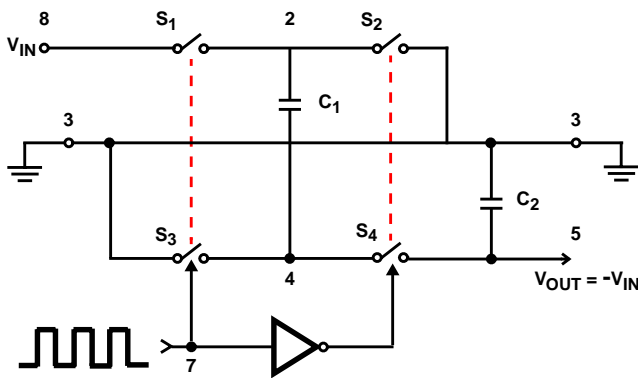
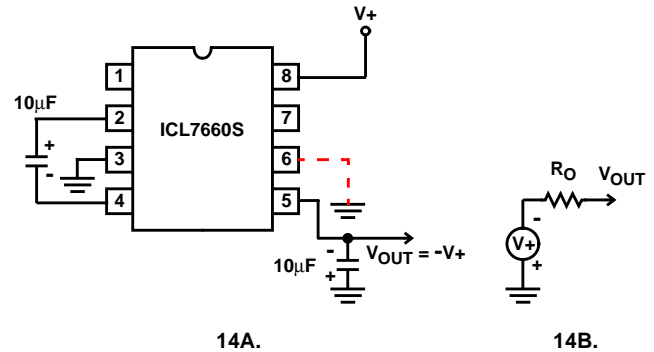
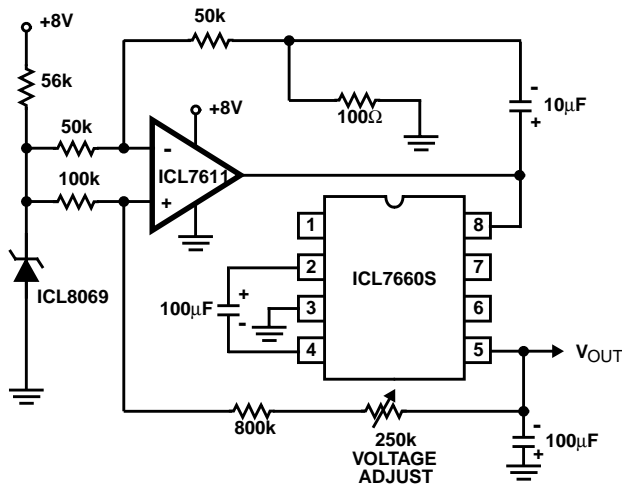
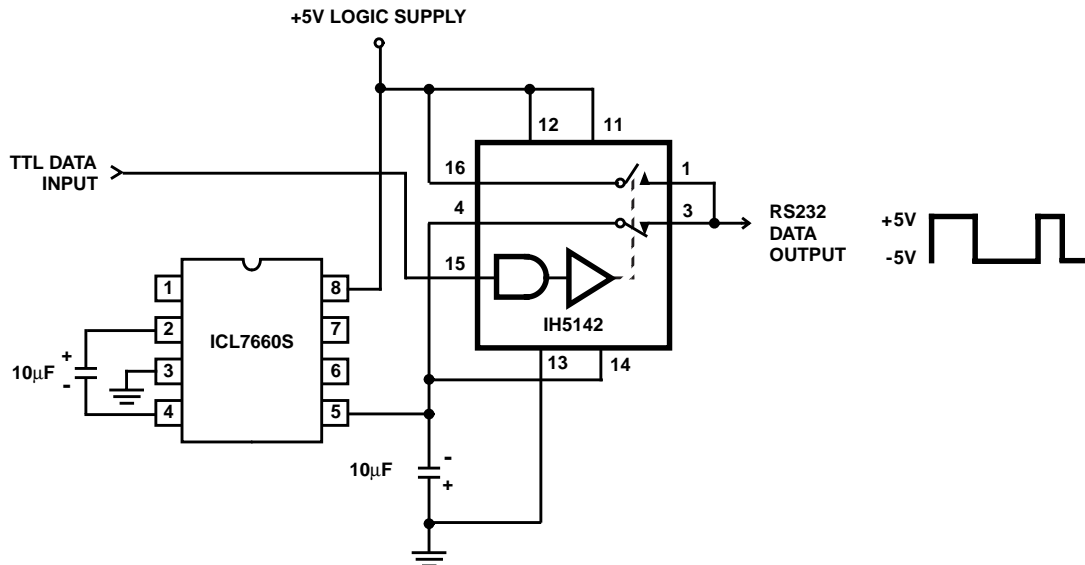

FIGURE 13. IDEALIZED NEGATIVE VOLTAGE CONVERTER
FIGURE 14. SIMPLE NEGATIVE CONVERTER AND ITS OUTPUT EQUIVALENT
FIGURE 20. REGULATING THE OUTPUT VOLTAGE
FIGURE 21. RS232 LEVELS FROM A SINGLE 5V SUPPLY
The ICL7660S contains all the necessary circuitry to complete a negative voltage converter, with the exception of 2 external capacitors which may be inexpensive 10 $\mu$ F polarized electrolytic types. The mode of operation of the device may be best understood by considering Figure 13, which shows an idealized negative voltage converter.
In the ICL7660S, the 4 switches of Figure 13 are MOS power switches;  $S_1$  is a P-Channel devices and  $S_2$ ,  $S_3$  and  $S_4$  are N-Channel devices. The main difficulty with this approach is that in integrating the switches, the substrates of  $S_3$  and  $S_4$
where  $V_1$  and  $V_2$  are the voltages on  $C_1$  during the pump and transfer cycles. If the impedances of  $C_1$  and  $C_2$  are relatively high at the pump frequency (refer to Figure 13) compared to the value of  $R_L$ , there will be substantial difference in the voltages  $V_1$  and  $V_2$ . Therefore it is not only desirable to make  $C_2$  as large as possible to eliminate output voltage ripple, but also to employ a correspondingly large value for  $C_1$  in order to achieve maximum efficiency of operation.
The majority of applications will undoubtedly utilize the ICL7660S for generation of negative supply voltages. Figure 14 shows typical connections to provide a negative supply where a positive supply of +1.5V to +12V is available. Keep in mind that pin 6 (LV) is tied to the supply negative (GND) for supply voltage below 3.5V.
The output characteristics of the circuit in Figure 14 can be approximated by an ideal voltage source in series with a resistance as shown in Figure 14B. The voltage source has a value of  $-(V^+)$ . The output impedance ( $R_O$ ) is a function of the ON resistance of the internal MOS switches (shown in Figure 13), the switching frequency, the value of  $C_1$  and  $C_2$ , and the ESR (equivalent series resistance) of  $C_1$  and  $C_2$ . A good first order approximation for  $R_O$  is:
The ICL7660S may be employed to achieve positive voltage doubling using the circuit shown in Figure 20. In this application, the pump inverter switches of the ICL7660S are used to charge  $C_1$  to a voltage level of  $V_+ - V_F$  (where  $V_+$  is the supply voltage and  $V_F$  is the forward voltage on  $C_1$  plus the supply voltage ( $V_+$ ) is applied through diode  $D_2$  to capacitor  $C_2$ . The voltage thus created on  $C_2$  becomes  $(2V_+) - (2V_F)$  or twice the supply voltage minus the combined forward voltage drops of diodes  $D_1$  and  $D_2$ .
Figure 21 combines the functions shown in Figure 14 and Figure 20 to provide negative voltage conversion and positive voltage doubling simultaneously. This approach would be, for example, suitable for generating +9V and -5V from an existing +5V supply. In this instance capacitors  $C_1$  and  $C_3$  perform the pump and reservoir functions respectively for the generation of the negative voltage, while capacitors  $C_2$  and  $C_4$  are pump and reservoir respectively for the doubled positive voltage. There is a penalty in this configuration which combines both functions, however, in that the source impedances of the generated supplies will be somewhat higher due to the finite impedance of the common charge pump driver at pin 2 of the device.